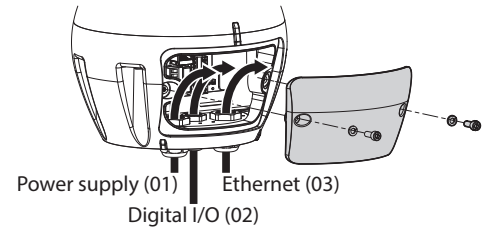

Fig. 7
- Open the connector housing cover (Fig. 7, page 11).